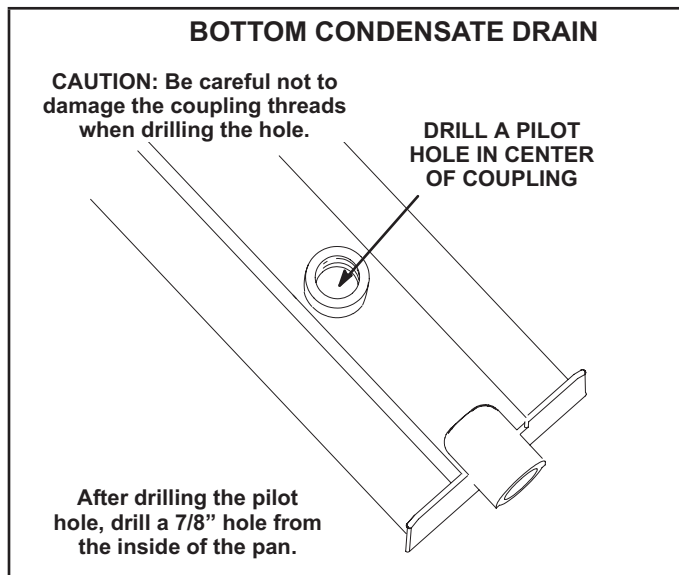

FIGURE 8
- 6 - Turn the drain pan upside down and drill a pilot hole through the bottom of the drain pan in the center of the coupling. See FIGURE 8.